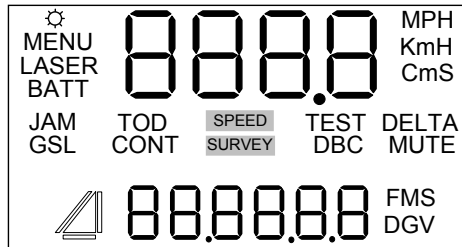

Figure 23. Display Integrity Test
The Display Integrity Test allows you to verify that all display segments are operating. LTI suggests that you do this test periodically. Refer to the instructions and Figure 23 below to test the display integrity.
2. Press the **TEST OPTIONS** button. The display should look like Figure 23.